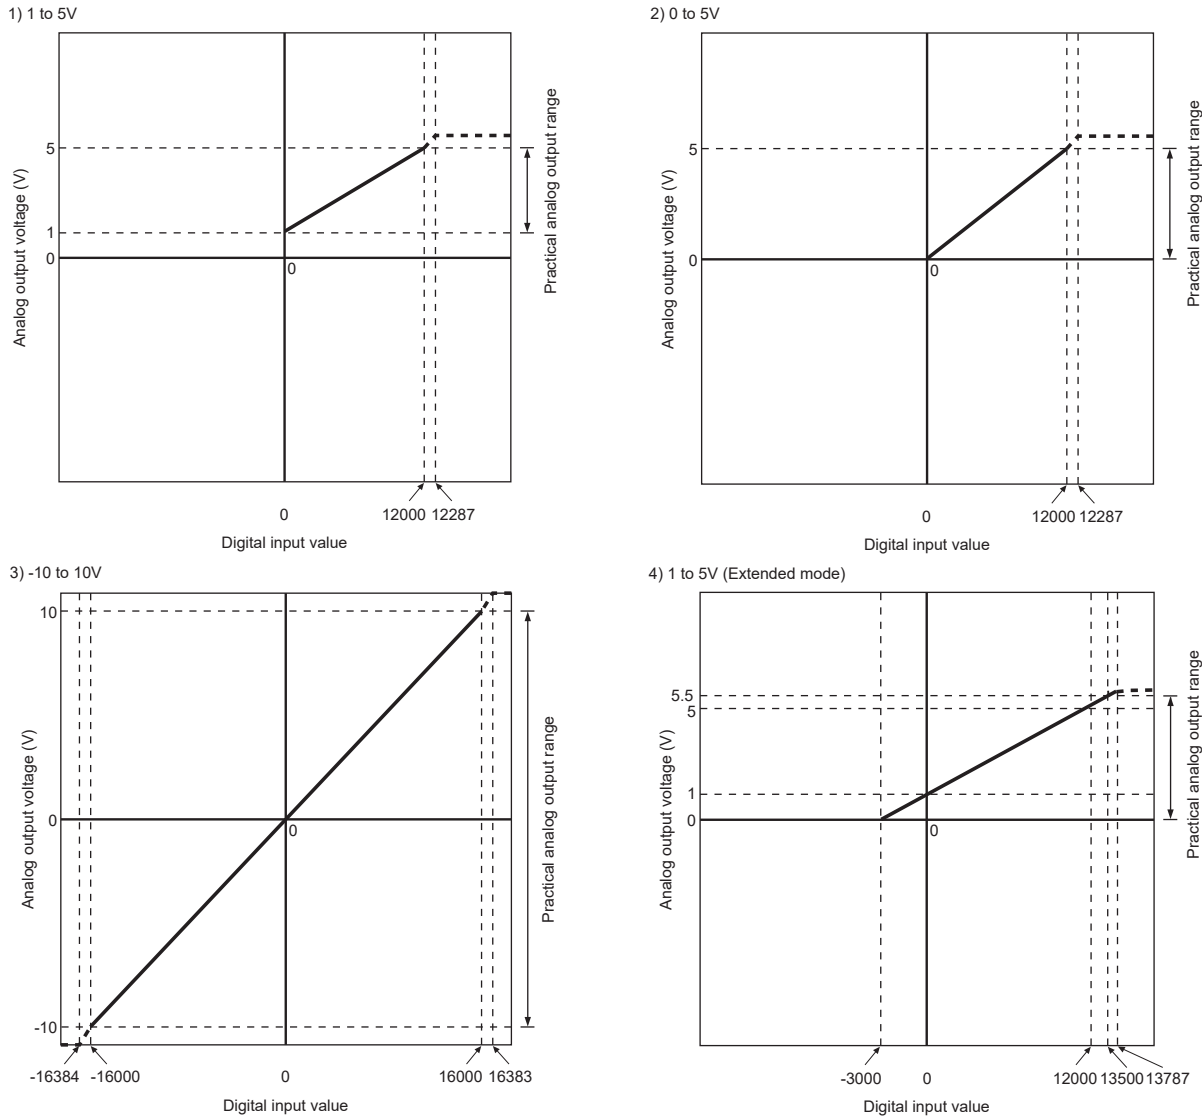

Figure 3.1 Voltage output characteristic
Figure 3.1 shows a graph of the voltage output characteristic.
(1)	<p>Set within the digital input range and analog output range for each output range. If these ranges are exceeded, the maximum resolution and accuracy may not fall within the performance specifications. (Avoid using the dotted line area shown in Figures 3.1.)</p>